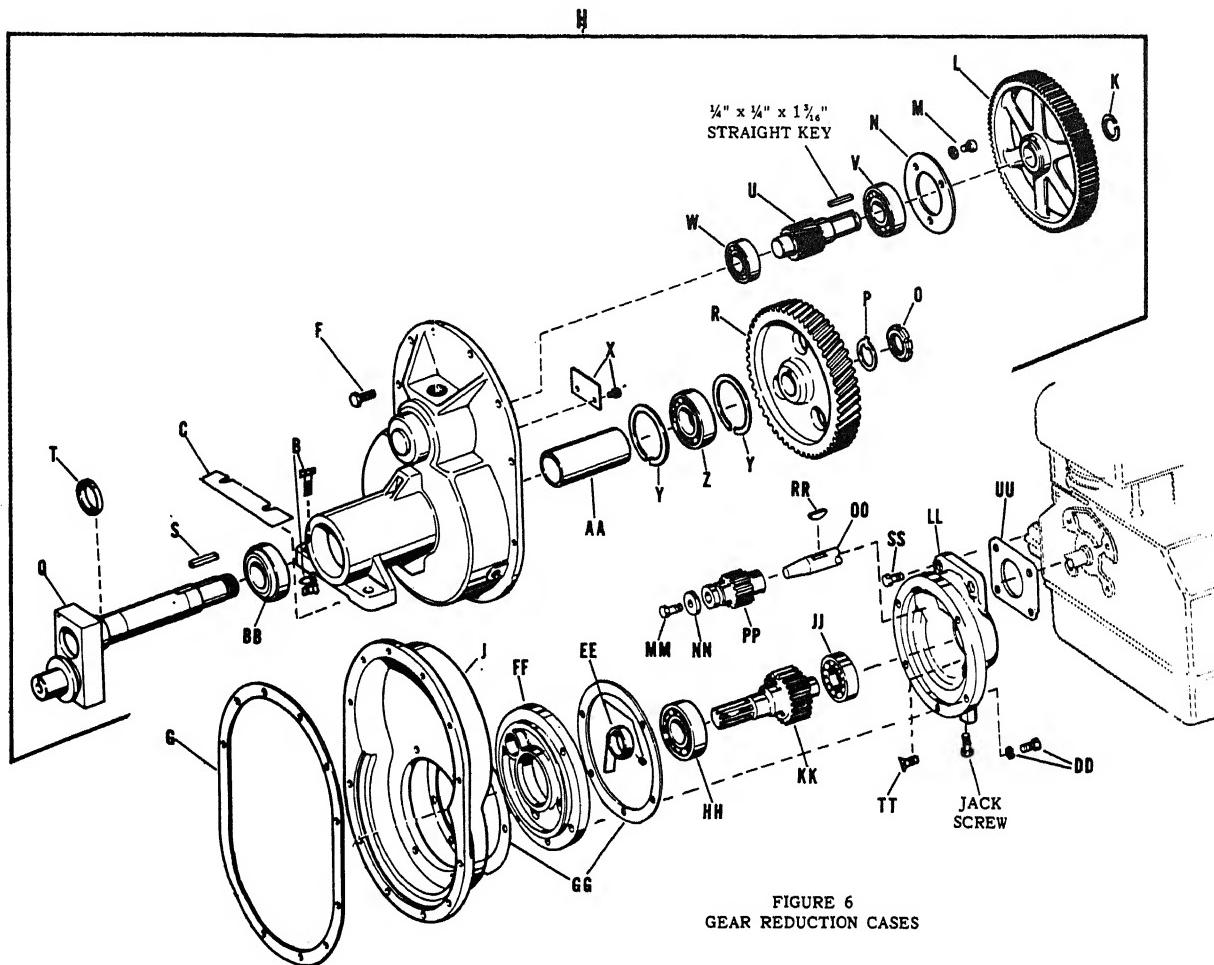
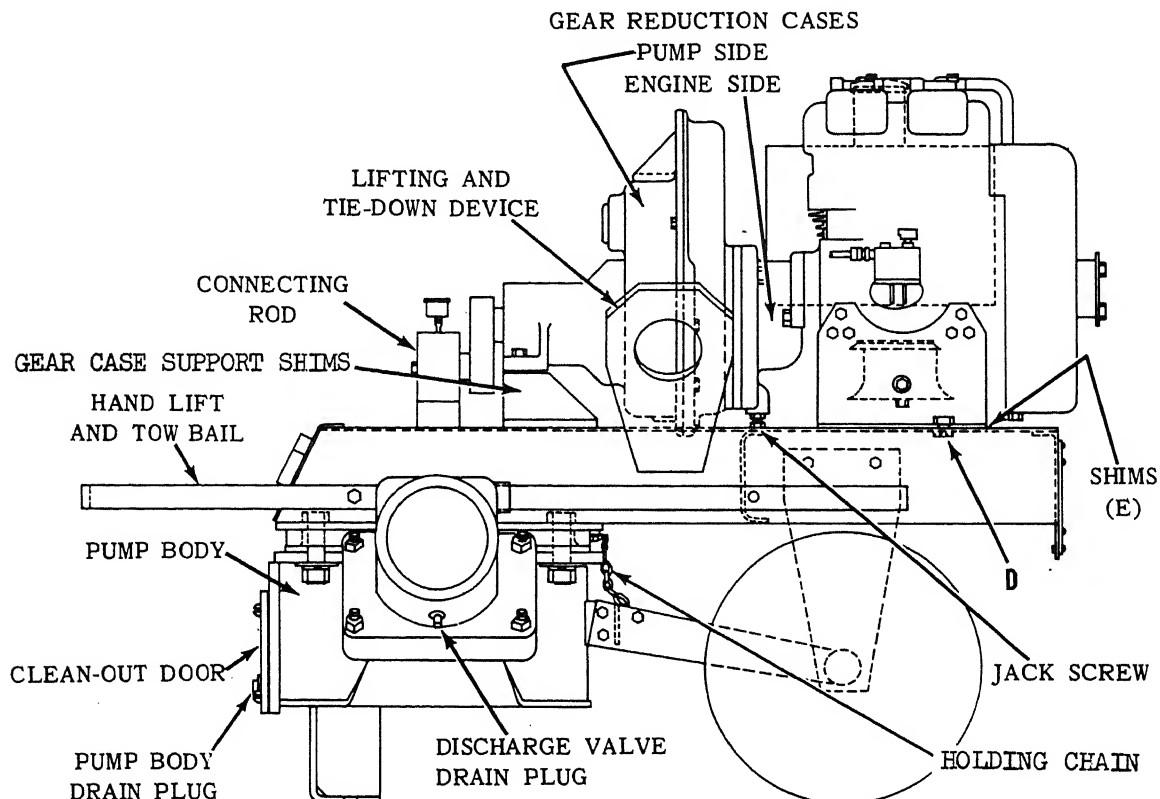

FIGURE 6
FIGURE 7
22. Gearcase (pump side) Disassembly and Assembly – (Ref. Fig. 6 and 7)
C. Ref. Fig. 6. Remove the two $\frac{1}{2}$ " bolts, lock washers and nuts (B) holding gearcase to the gearcase support. Ref. Fig. 7. Remove two bolts with lock washers and nuts (D), Fig. 7, holding engine to frame. Save shims (C) Fig. 6, and shims (E) Fig. 7 for reuse.
E. Twelve $\frac{5}{16}$ " cap screws (F) holding the cover halves together. Remove these bolts and pull reduction case assembly (H) from intermediate section (J). Gasket (G) should be replaced new in reassembly.
F. Pry out snap ring (K) and pull spur gear (L) off pinion shaft (U). The $\frac{1}{4}$ " straight key may be saved for reuse if not damaged.
G. Remove three $\frac{5}{16}$ " socket head cap screws with lock washers (M) and retainer (N).
H. Straighten ear of lock washer (P). Remove lock nut (O) and washer (P). Pull output shaft crank arm (Q) from housing (A). Retain gear (R) from falling. Remove key (S) and manipulate gear (R) from housing. Remove spacer (T).
I. Pull pinion shaft (U) with bearings (V) and (W) from housing. Bearings (V) and (W) may be removed from pinion shaft.
J. Remove the two round head screws and oil trap (X), and snap ring (Y).
K. Bearing (Z) may be pulled from bore of housing. Pull out spacer (AA) and pull out bearing (BB) from housing, and inner snap ring (Y).
23. Gearcase (engine side) Disassembly and Assembly (Ref. Fig. 6)
A. Remove the $\frac{1}{4}$ " socket set screw and oil slinger (EE). Note position of oil slinger for reassembly to prevent damage to oil slinger.
B. Remove five $\frac{1}{4}$ " cap screws with lock washers (DD). Housing (J), bearing retainer (FF), gaskets (GG), bearings (HH) and (JJ) with pinion shaft (KK) may now be pulled from housing (LL).
C. Pull bearings (HH) and (JJ) off pinion shaft (KK).
D. Remove cap screw (MM) with lock washer and special washer (NN) from engine shaft (OO). Pinion (PP) is grooved for removal with a puller. Remove pinion. Remove woodruff key (RR) from shaft (OO).
E. Remove three cap screws (SS) and internal flat head cap screws (TT) from housing. Pull housing (LL) with gasket (UU) from engine housing.
Reference for Fig. 6
25. Lifting and Tie Down (Ref. Fig. 7)